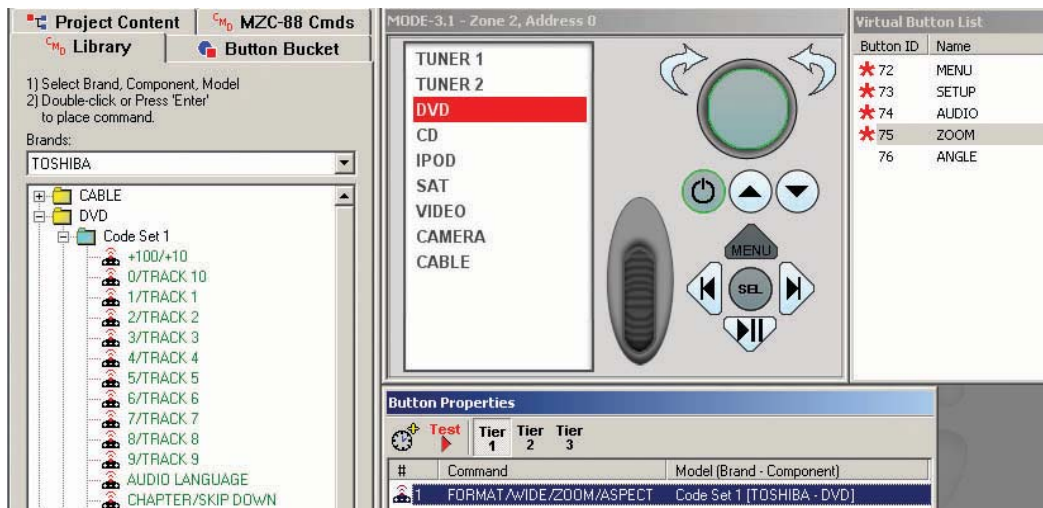

Figure 36
12. Left click the Virtual Button to be programmed. Double left click the IR or RS232 command in the CMD Library. A **red asterisk** will appear next to the function in the **Virtual Button List** to indicate an associated command or macro. The command will appear in the **Button Properties Window**. (Refer to **Figure 36**) Repeat for all Virtual Buttons.